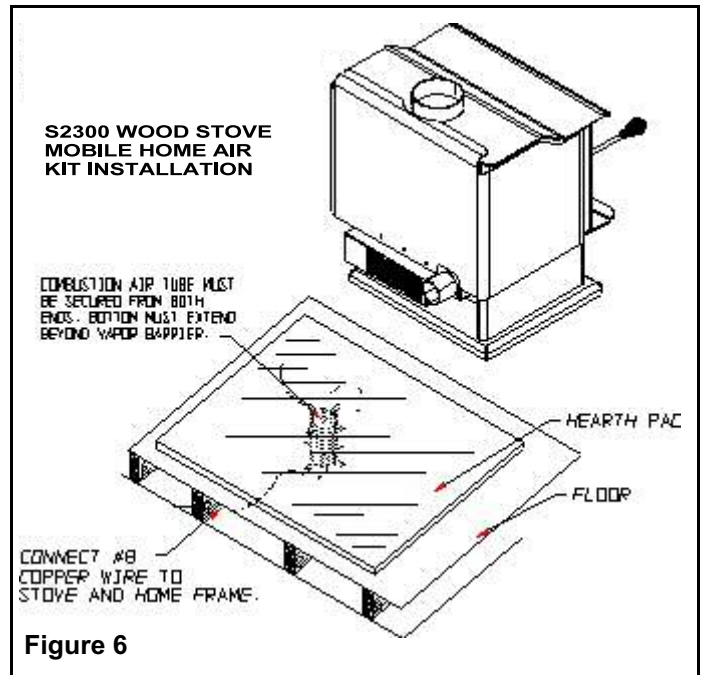

Figure 6
1. Open door and pull air control rod (located at the front of stove) all the way out. When the air control rod is pulled out you are admitting maximum combustion air to your stove. Conversely, when the air control rod is pushed all the way in, you are admitting only a bare minimum of combustion air (**Figure 6**).